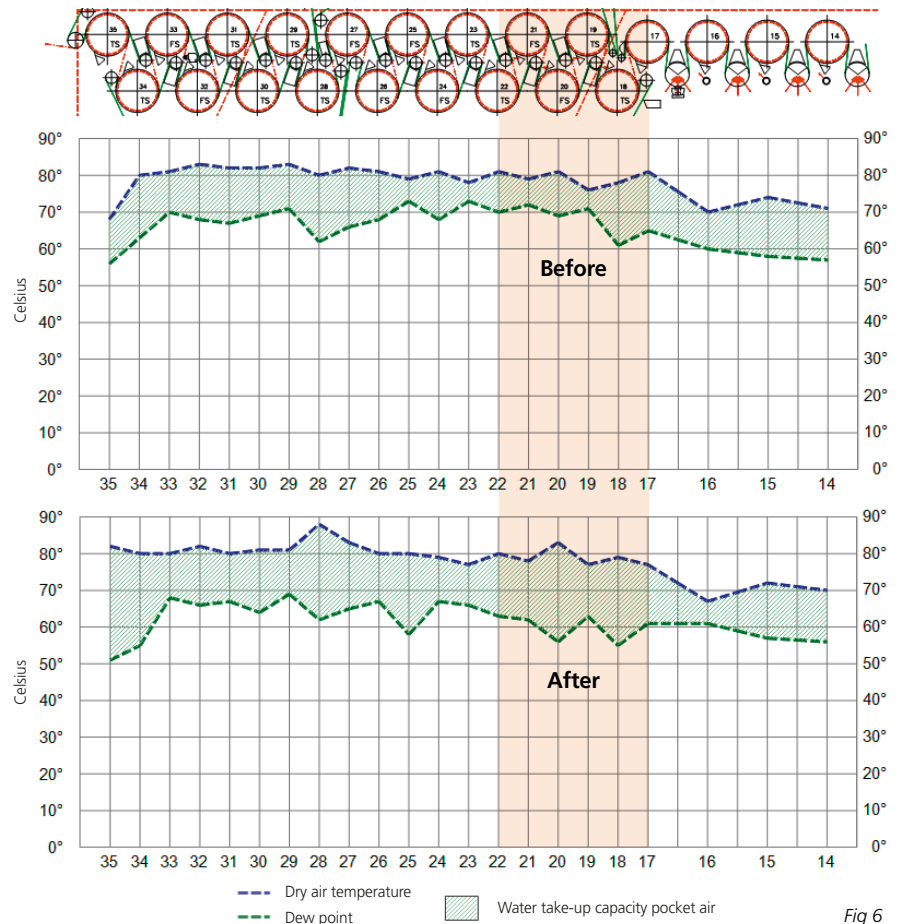

Fig 6
- more supply air for pocket ventilation (Fig 6) thereby: